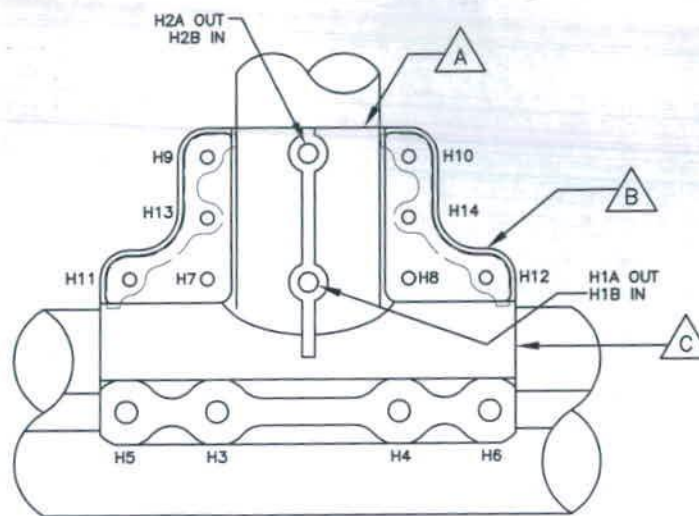

Figure 1 – Saddle Installation
- 3.1.9 Apply a continuous bead of Sikaflex-241/-291 or Proseal 890 or MIL-S-8802 Class B2 sealant in the following locations as per Figure 1: